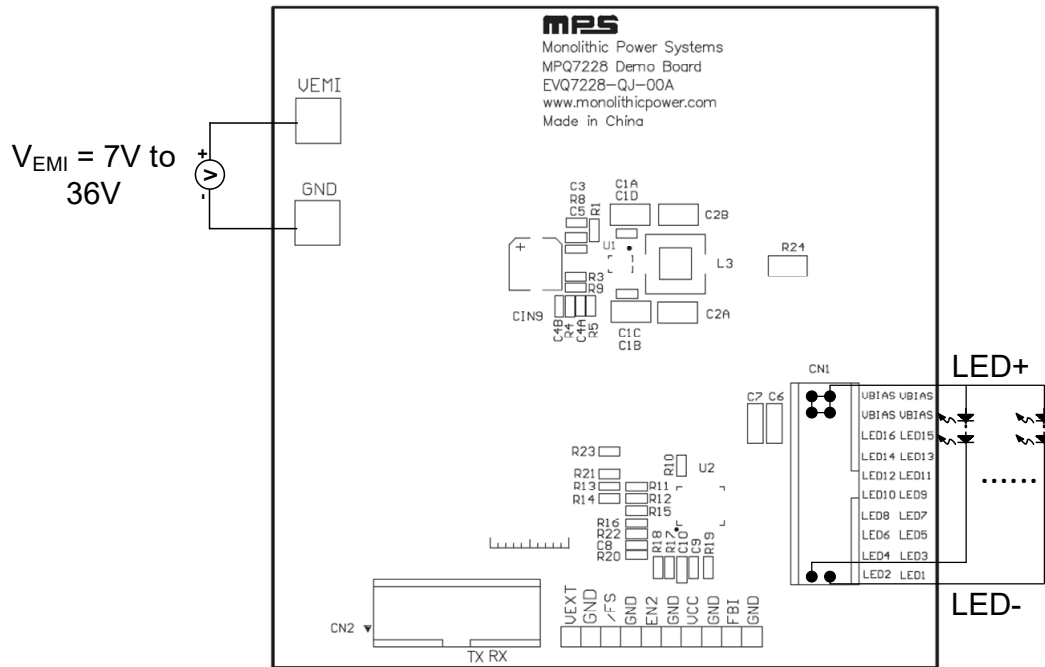

Figure 14: Measurement Equipment Set-Up
23. Figure 14 shows the measurement equipment set-up.